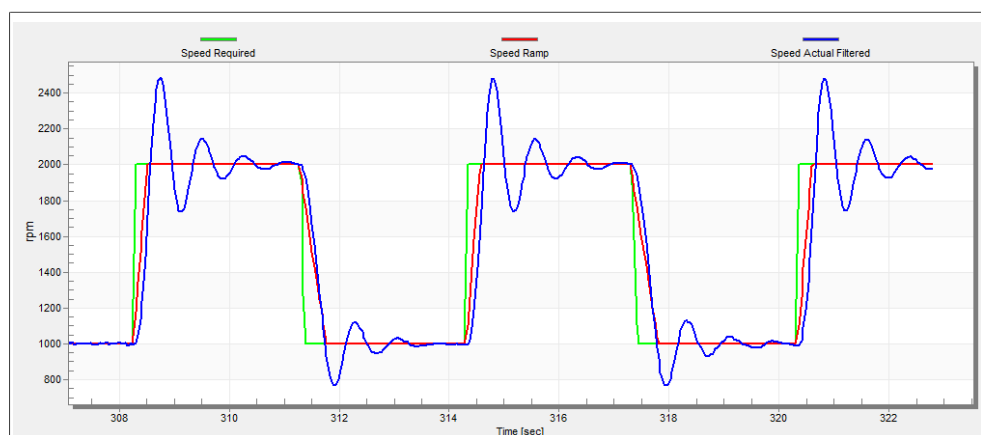

Figure 27. Speed controller response—SL_Kp value is low, Speed Actual Filtered greatly overshoots
- The “SL_Kp” value is low, the “Speed Actual Filtered” greatly overshoots, and the long settling time is unwanted (see Figure 27).